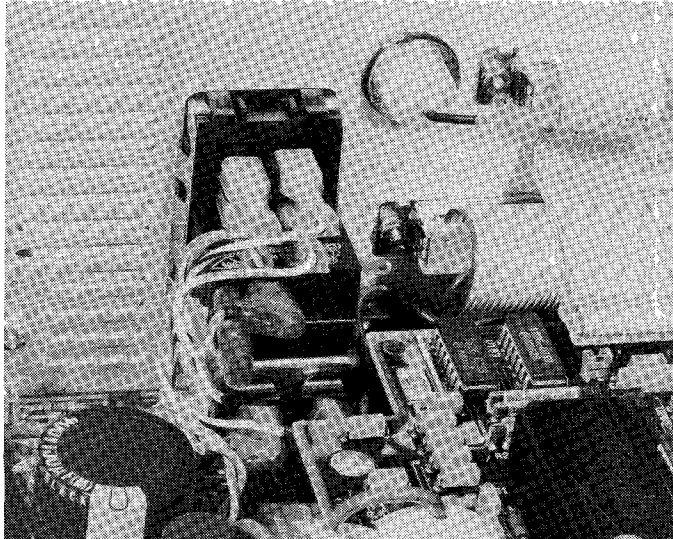

Figure 6-1. Line Module Wire Dressing
- A. The wires from the line module must be dressed in a certain way to keep them from rubbing with other components in the instrument. Failure to dress these wires properly could result in a safety problem. The wires should be bent back towards the rear panel so that they do not touch any of the PC boards. See the proper way to dress these wires in Figure 6-1.